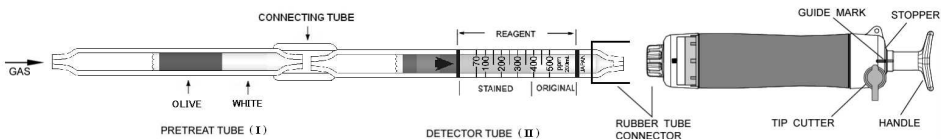

Fig.1
- ① Break both ends of the detector tube (II) and pretreat tube (I), and connect each end of the detector tube and pretreat tube with connecting tube as shown in Fig.1.
- ② Insert the detector tube into the aspirating pump securely as shown in Fig.1. (Arrow mark shall point to the pump.)
- ③ Align the guide marks on the shaft and stopper of the aspirating pump.
- ④ Pull the pump handle at a full stroke until it locks and wait for 1.5 minutes or until the completion of sampling is confirmed with the flow indicator of the pump. (See descriptions about the flow indicator in the instruction manual of the pump.)
- ⑤ Push back the handle without removing the detector tube from the rubber tube connector so that air in the pump will be discharged perfectly. Then repeat the step ③~④ once more.
- ⑥ On completion of sampling, read the scale at the maximum point of the stained layer.
- ⑦ When the concentration is below the scale range, 3 or 4 pump strokes can be used to determine concentrations of 35 to 250 ppm or 23 to 167 ppm. Then multiply the reading value by 1/2 or 1/3 respectively after temperature correction.
- ① Temperature: Correct the tube reading by following temperature correction table.